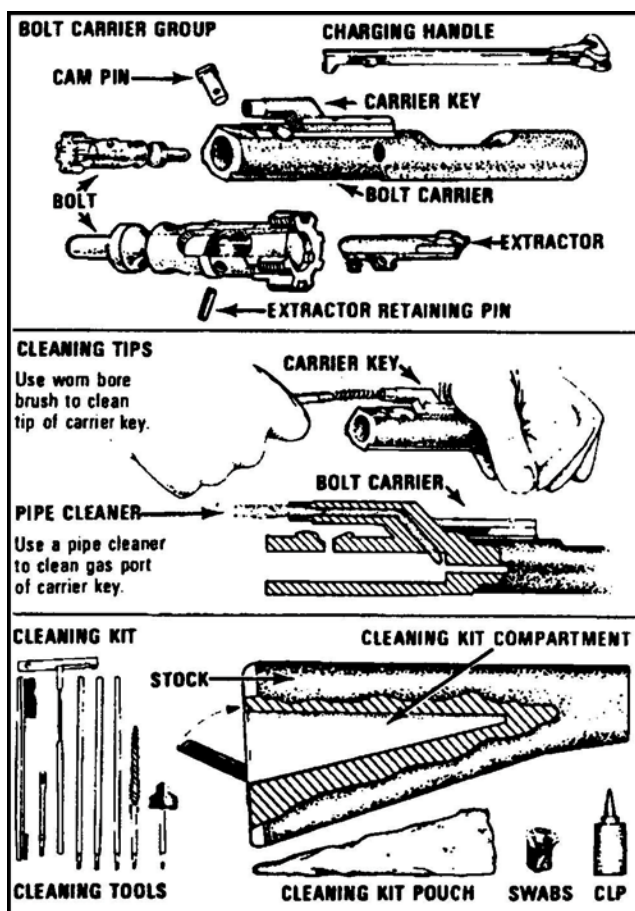

Figure 22. Cleaning the bolt carrier group.
- b. Clean the bolt carrier group, wiping the following parts with swabs and other parts from the small-arms maintenance equipment case (Figure 22).
- (1) The outer and inner surfaces of the bolt carrier.
- (2) The carrier key.
- (3) The firing pin recess and firing pin.
- (4) The firing pin hole with a pipe cleaner.
- (5) The carbon deposits and dirt from the locking lugs.
- (6) The areas behind the bolt ring and under the lip of the extractor.
- c. Clean the following rifle parts lightly lubricating with CLP (See Figure 22).
- (1) Lugs in the barrel extension, bore, and chamber.
- (2) Bolt carrier.
- (3) Slide cam pin area.
- (4) Piston rings.
- (5) Outside the bolt body.
- (6) Inside the bolt carrier key.
- (7) Firing pin and firing pin recess.
- (8) Outside surface of the protruding gas tube with a worn bore brush.
- (9) Buffer.
- (10) Action spring.